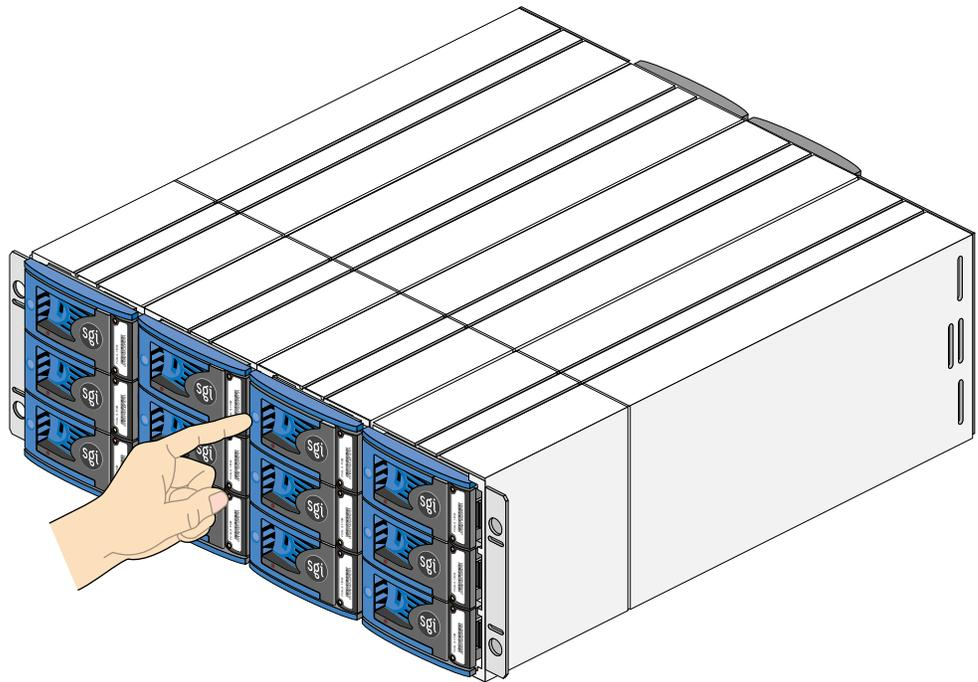

Figure 8-18 Engaging the Camming Lever: Rackmount Enclosure
7. Press on the drive handle to seat the drive. The camming lever on the right of the module engages with a slot in the chassis, as shown in Figure 8-18.